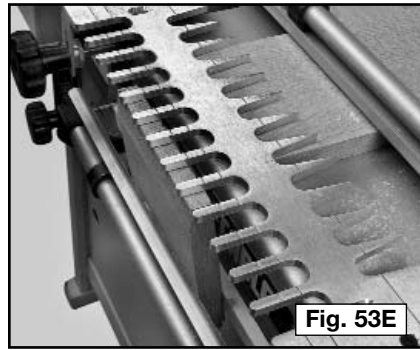

Fig. 53E
- Step 5** - If the angle is steep, the “tails” line may not align with the wood. The joint will be fine if you place the straight portion of the template fingers directly over the tail board (A) Fig. 53E. Otherwise, you may have to use an angled clamping board.